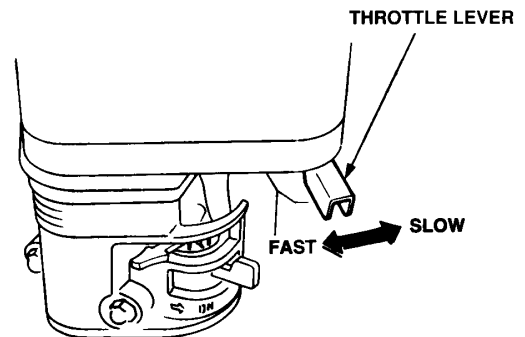

Figure 11. Throttle Lever
5. Move the throttle lever halfway between the FAST and SLOW position (Figure 11) for starting.
2. Place the engine's throttle lever (Figure 11) in the slow (idle) position.
3. Place the engine's throttle control (Figure 11) in the SLOW (idle) position.
3. Place the throttle lever (Figure 11) in the slow position. Idle engine 3-5 minutes for gradual cooling.